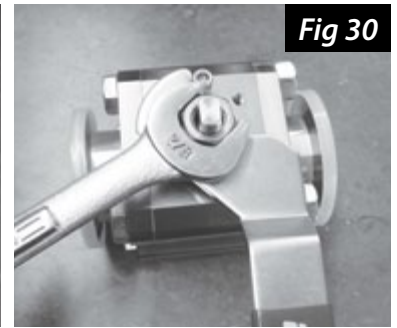

Fig 30
16. Thread the nut onto the valve stem and tighten with the 7/8" wrench until the handle is secure (Fig 30).
19. Thread the nut onto the valve stem and tighten with the 7/8" wrench until the handle is secure (Fig 30).